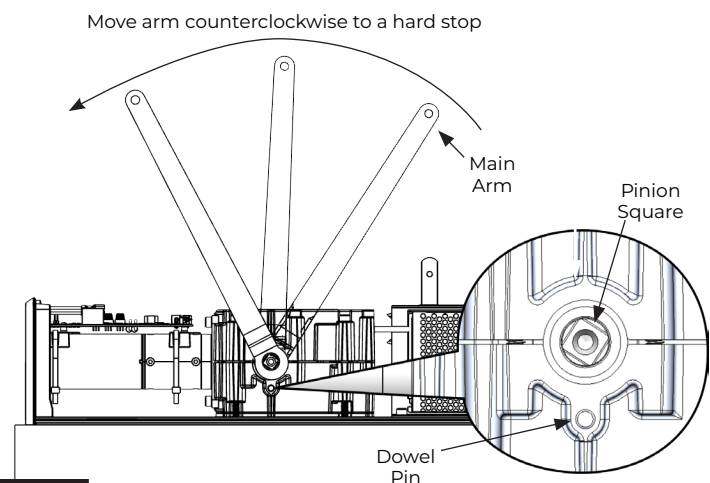

Figure 15
1. Locate the dowel pin on the side of the operator housing (adjacent to the pinion square). (Figure 15)